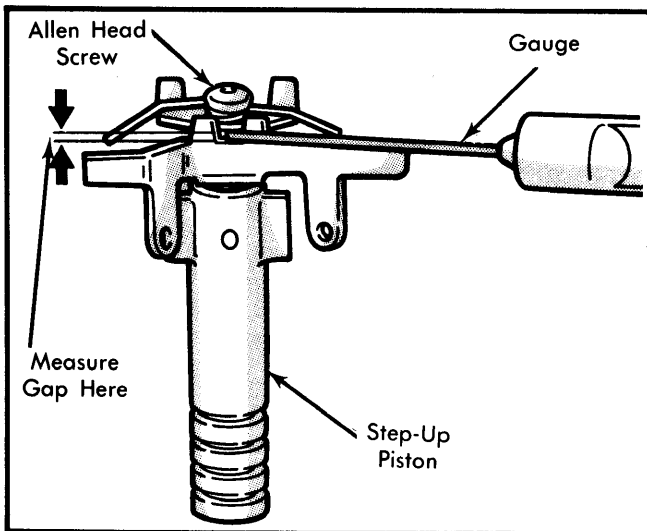

Fig. 2 Vacuum Step-Up Piston Gap Qualification
2) Measure piston gap. See Fig. 2. If not to specification, adjust by turning Allen head screw on top of piston.